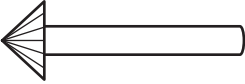

**Fig. 2**
- 2 Fig. 2 shows an incomplete leg fastening used to join a leg to the rails of a table.
Add to Fig. 2 to show how the leg fastening could be fixed to the leg and the rails. [3]